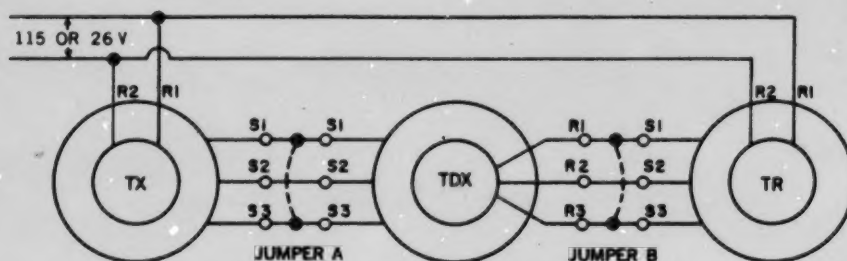

Figure 7-37.—Zeroing a TDX using a TX and TR.
1. Check to see if the differential needs to be zeroed. First make sure the transmitter and receiver are correctly zeroed and the transmitter is held on 0° during adjustment. Connect as shown in figure 7-37. If the receiver shaft moves when jumper A is connected from S1 to S3, the transmitter is not 0°; recheck.
3. Connect jumper B (fig. 7-37) momentarily between receiver terminals S1 and S3, and differential terminals R1 and R3. If the receiver shaft moves when jumper B is connected, the differential is not on 0°; rotate the differential slightly and try again. When the differential is zeroed, clamp it in position and remove jumpers.